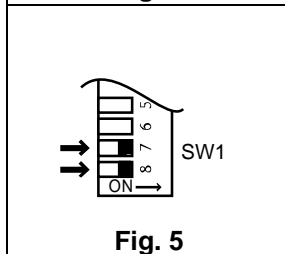

Fig. 5
12. Set the Infinity to 'Forced High' combustion by setting both No. 7 and No. 8 dip switches of the bottom (SW1) set to 'ON'. (Fig. 5). **Ensure maximum water flow !**